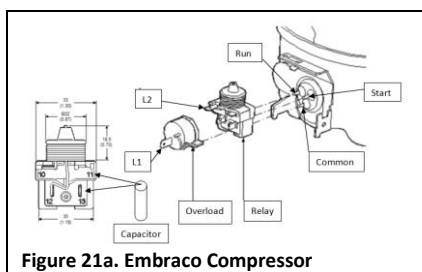
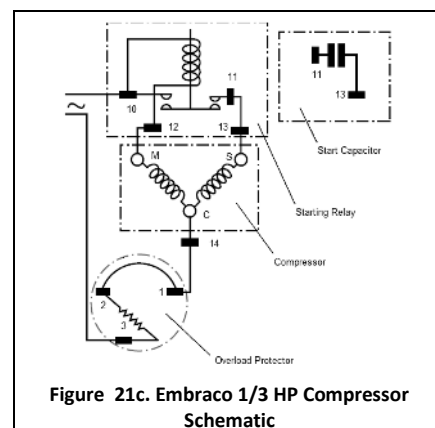

Figure 21a. Embraco Compressor
Figure 21c. Embraco 1/3 HP Compressor Schematic
**Embraco 1/3 HP** – Remove relay from compressor. (Figure 21a and Figure 21c).
- Check compressor windings using ohmmeter. Refer to TABLE 1, Figure 21a and Figure 21c.